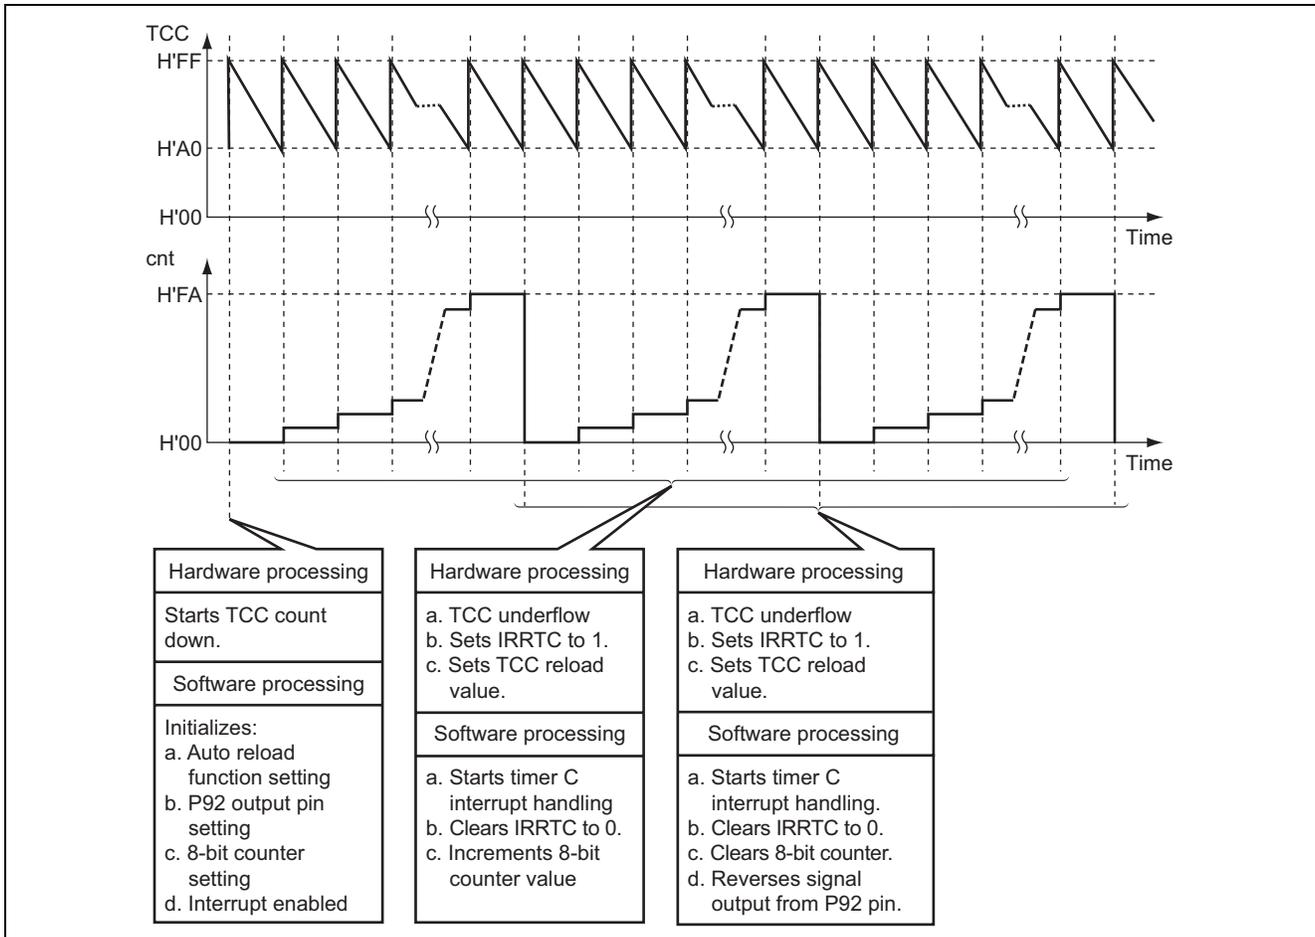

Figure 2 Operation Principle of Interrupt Period Setting by Timer C Auto-Reload Function
1. Figure 2 illustrates the principle of operation of this sample task. As shown in figure 2, the interrupt period by the Timer C auto-reload function is set by hardware processing and software processing.